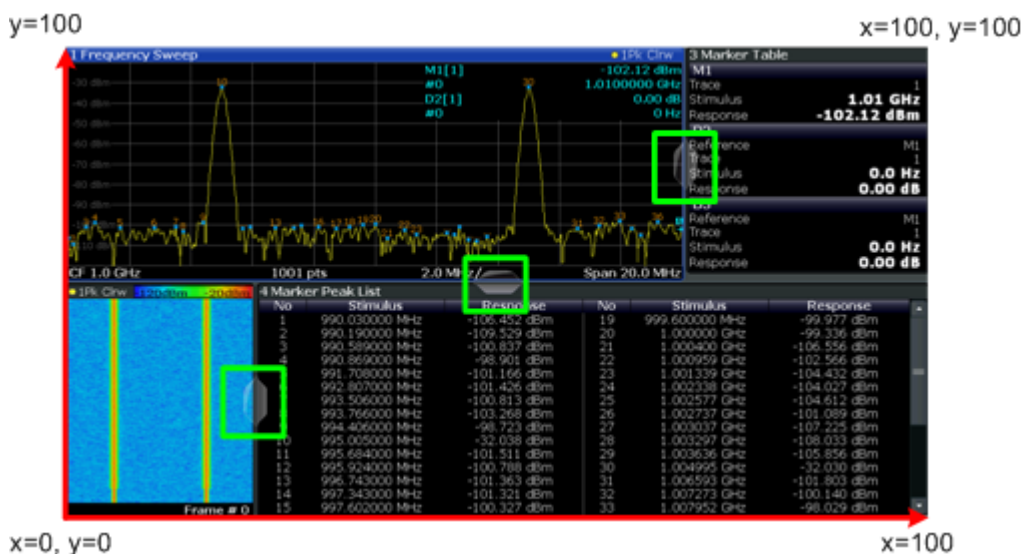

Fig. 11-1: SmartGrid coordinates for remote control of the splitters
- The point of origin ($x = 0$, $y = 0$) is in the lower left corner of the screen. The end point ($x = 100$, $y = 100$) is in the upper right corner of the screen. (See figure 11-1.)